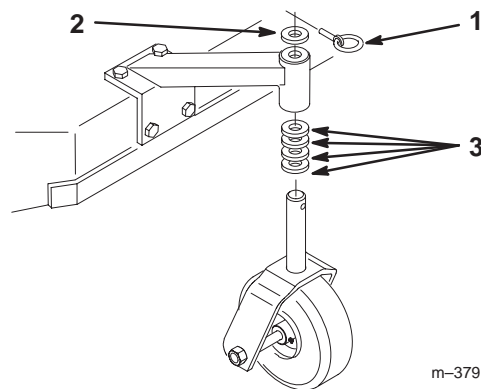

Figure 27
1. Using the Height-of-Cut Chart (on page 25), adjust the caster spacers to match with the axle hole selected (Fig. 27).
2. Remove the clevis pin, slide the caster from the support, and change the spacers (Fig. 27).
3. Install the caster in the support and insert the clevis pin (Fig. 27).